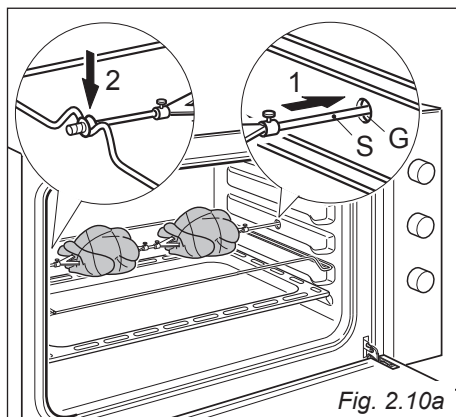

Fig. 2.10a
- Insert completely the rotisserie support; the shaft “S” must be inserted (through the hole cover) in the spit motor collar “G” (figs. 2.10a - 2.10b).